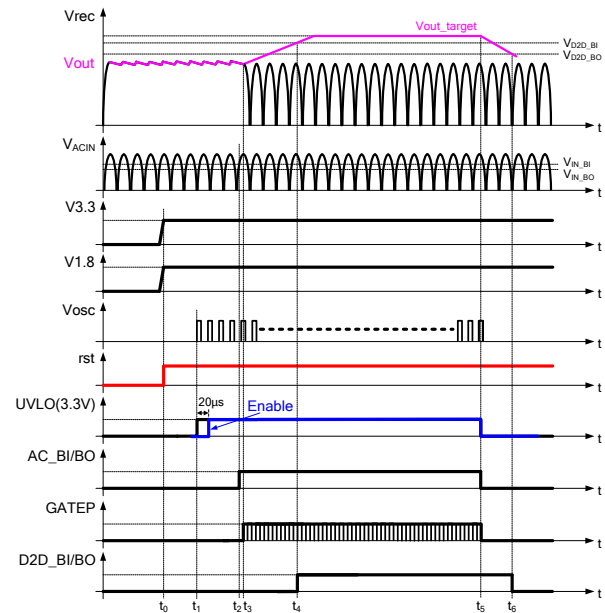

Figure 6: Power Supply Sequence of Digital Controller
1. D2D brown-in/out signal: If the output voltage is higher than V_{D2D_BI} , the D2D_BI/BO signal is set high, enabling the LLC stage. The LLC stage is disabled when the output voltage drops below V_{D2D_BO} . This function guarantees that the LLC operates within a proper input voltage range, preventing the LLC from running in capacitive mode (see Figure 6).
Figure 6 shows the timing of the digital PFC block.